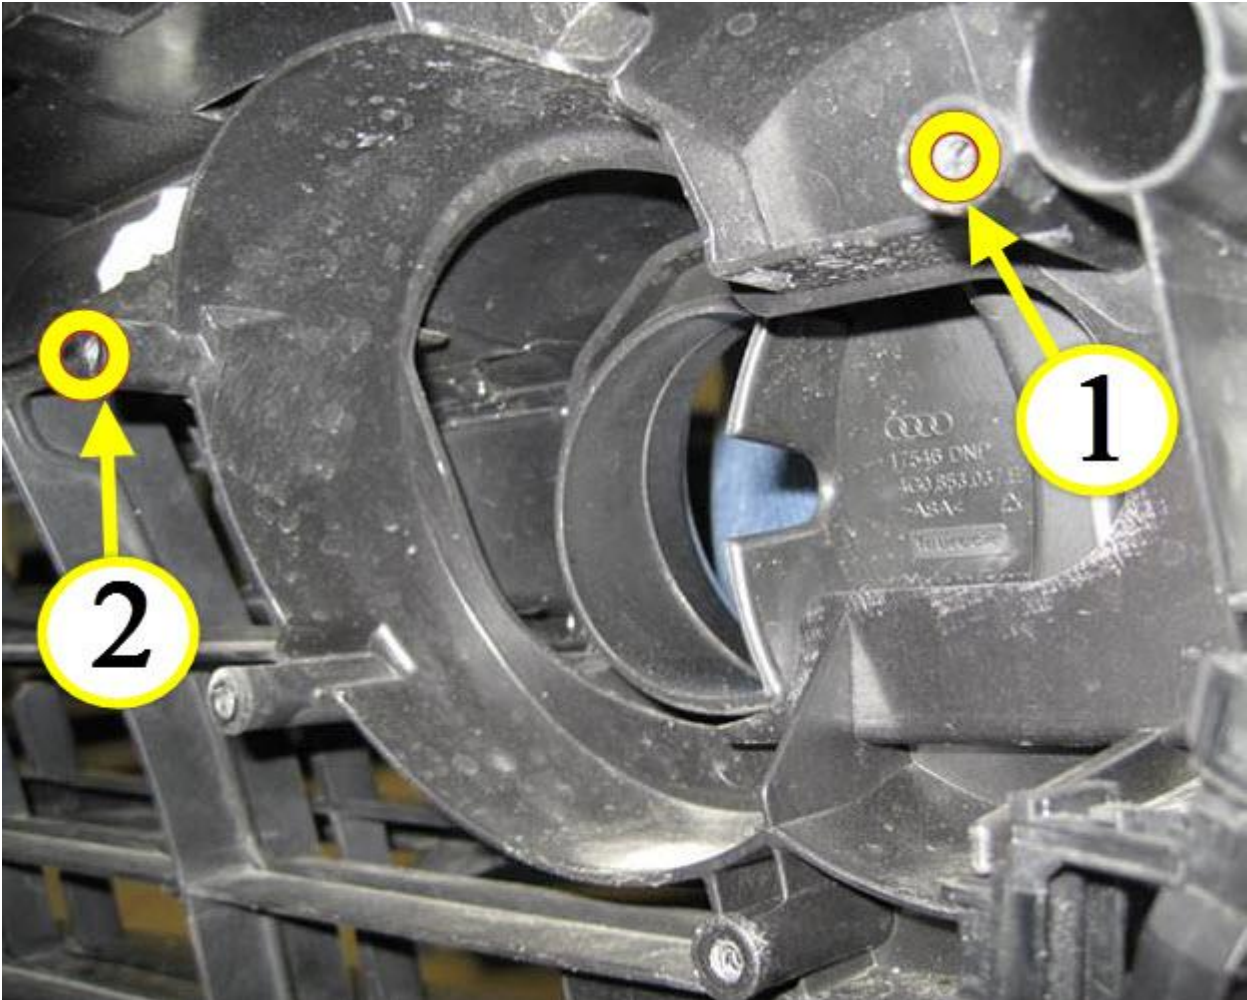

Figure 2. Radiator grille screw retainer locations with camera removed for reference. Spacers (N01152322) will be placed at locations 1 and 2.
7. Place a single spacer, part number N01152322, between each of the two upper mounting points that secure the night vision camera bracket to the radiator grille. These screws are shown in the above image as points 1 and 2 (Figure 1). The image below (Figure 2) references these points on the radiator grill as 1 and 2. The next image (Figure 3) shows the placement of the spacer on the camera as points 1 and 2, the camera has been removed for clarity.